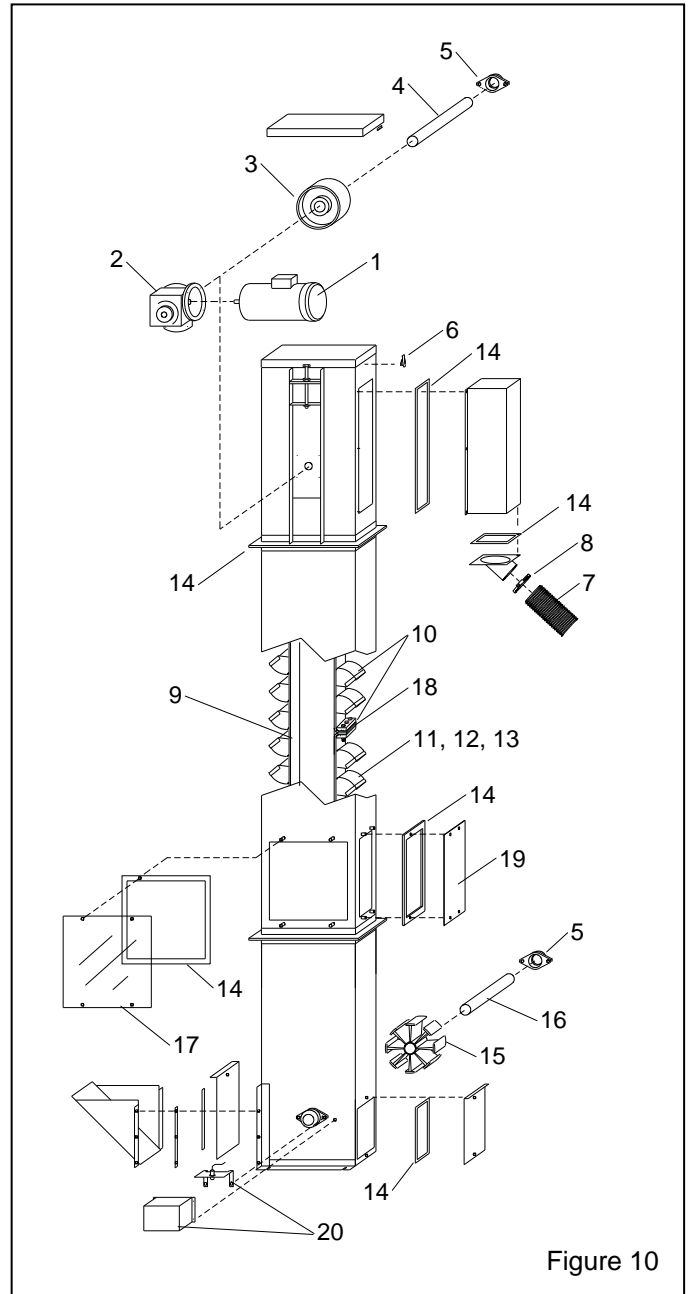

Figure 10
9.1 Bucket Elevator Assembly, Figure 10